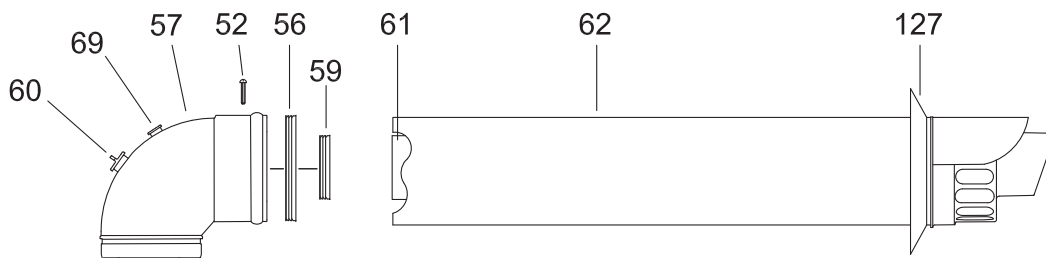

Fig 10
HORIZONTAL FLUE KIT BOX CONTAINING (Fig 10):
Important: Make sure that the inner 60 mm diameter of the elbow header is inserted fully into the flue manifold, and the flue manifold rubber seal is correctly fitted. (Fig 10 item 65)
Note: Minimum overall flue length is 30 mm to allow for terminal rubber wall seal (fig.10 item 127).
Working above the boiler pull the flue duct towards the elbow in order to engage the tube into its header (fig.10). Position the flue elbow in line with the flue and push so as to locate inner and outer flue correctly. Ensuring a good seal is made with O-rings. Tighten the two screws on the flue flange to secure the elbow header in place.
Terminal rubber wall seal must be fitted (127 fig.10 item 127).
If an extension must be shortened, this must be done from the straight end, and not from the widened or tapered end. To measure the pipeline properly all components must be assembled and total length measured before cutting. The straight end of the extension connects to the boiler. The flue output and air intake pipes fits into the boiler header until it stops (fig.10 - 11).